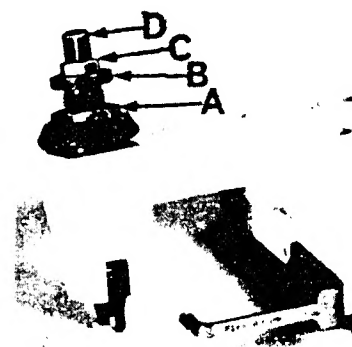

Fig. 2
Sufficient presser foot pressure to feed work uniformly should be maintained. Should it be necessary to increase or decrease amount of pressure on presser foot, loosen lock nut (A, Fig. 2) and turn adjusting screw (B). Adjusting screw has a right hand thread so tightening increases pressure, loosening decreases pressure. When pressure adjusting screw (B) has been properly set, tighten lock nut (A). With presser foot resting on throat plate, position locking nut (C) so that its under surface is approximately 1/32 inch to 1/16 inch (.79 to 1.59 mm) from the top surface of adjusting screw (B). Set cap (D) against locking nut (C).